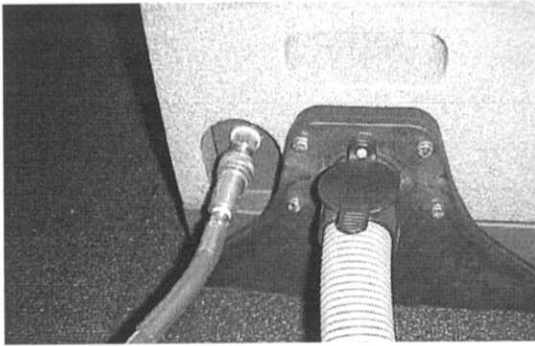

Figure 8
1. Connect accessory tool hoses to solution hose coupler and vacuum hose port located at front of machine (Figure 8).